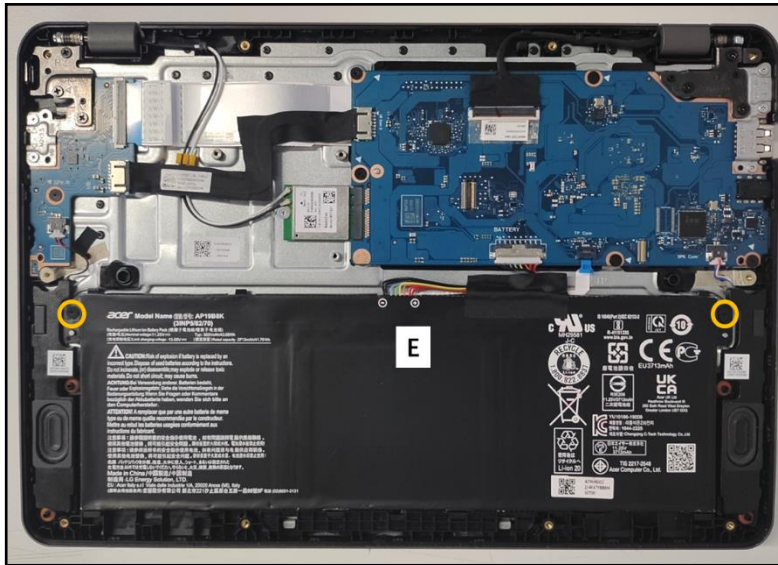

Figure 3-8. Battery Pack Removal
5. Remove two (2) screws (E) securing the Battery (Figure 3-8).